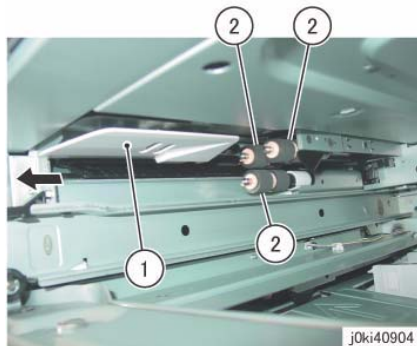

Figure 1 Remove the Tray 1 Feed/Retard/Nudger Rolls
5. Remove the Tray 1 Feed/Retard/Nudger Roll. (Figure 1)